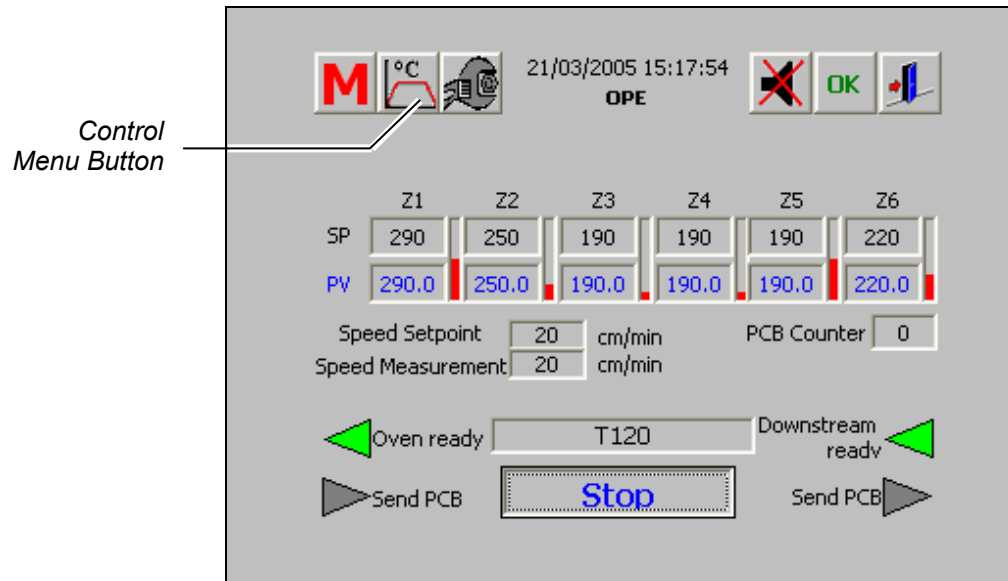

Figure 6-15 Main Menu – Control Menu Button
1. From the Main Menu, click on the **Control Menu** button (Figure 6-15).